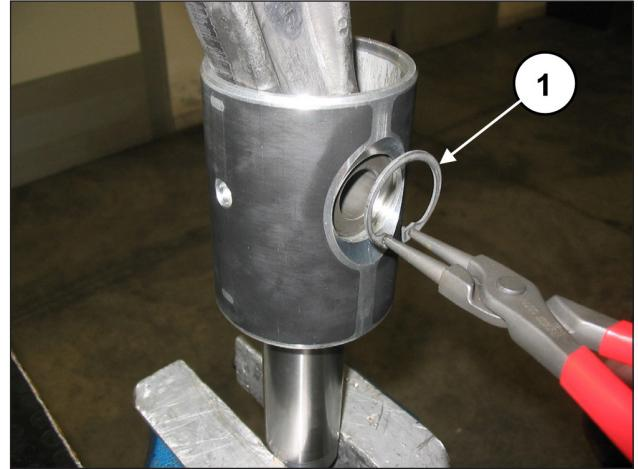

Fig. 35
Remove the two spindle pin circlips using circlip pliers (pos. ①, Fig. 35).